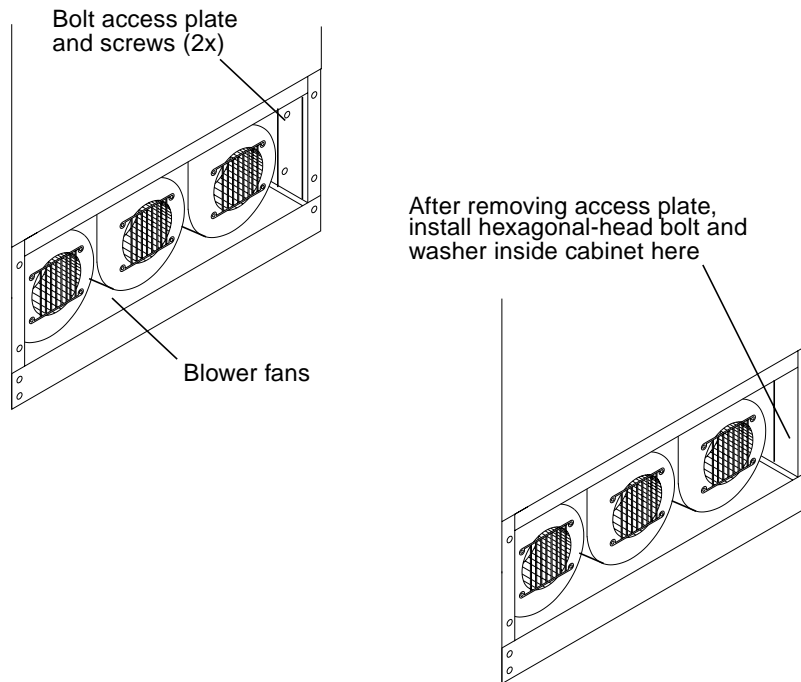

FIGURE B-7 System Cabinet Front, Bolt Access Plate and Screws
7. At the bottom right of the cabinet blower, remove the two Philips screws securing the bolt access plate. Set the plate and screws aside. See FIGURE B-7.